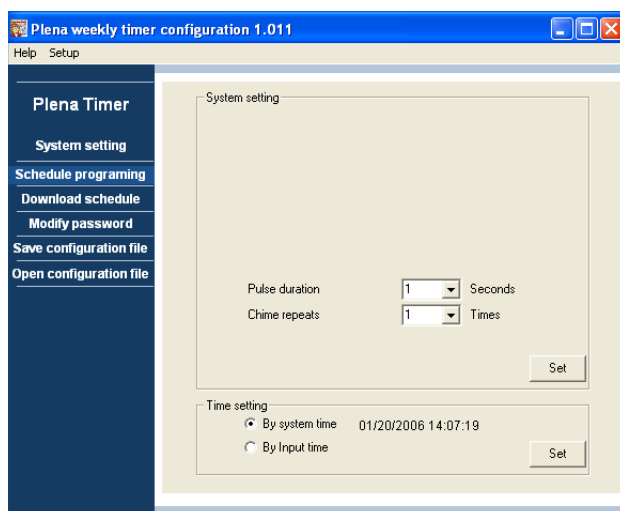

figure 8.10: Main menu
- 3 Enter the password (12345678) in the Enter password field, and click the OK button. The main menu will appear (see figure 8.10).
After entering the correct password, the Main menu will appear (see figure 8.10). Use the blue buttons on the left of this window to access all windows of the configuration software.